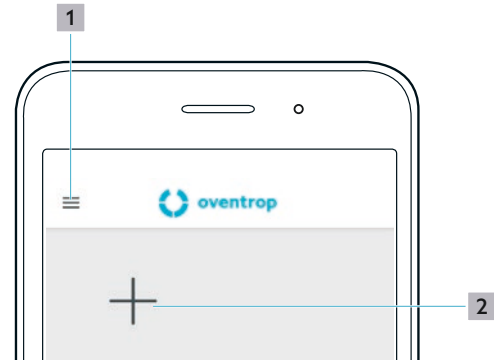

Fig. 12: ClimaCon F app - Start screen
- ▶ After the room thermostat has been removed, the app switches to the start screen (Fig. 12 on page 16).